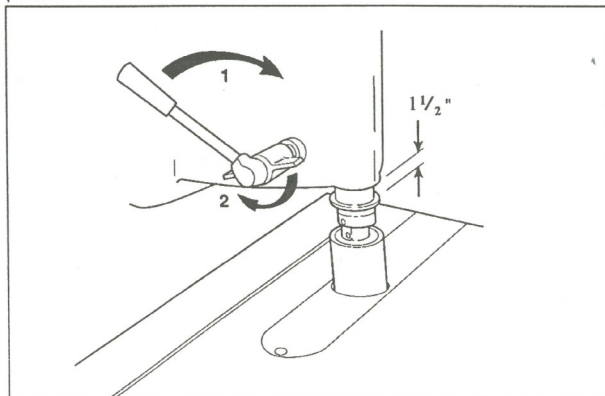

Figure 3 — Lower quill $1\frac{1}{2}$ " and lock in place.
- 9) Extend Mark V quill down approximately $1\frac{1}{2}$ " and lock into place with quill lock (see figure 3).